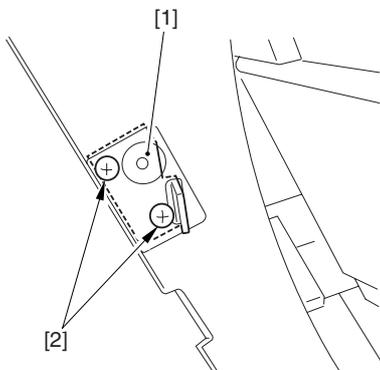

Figure 2-2
- 4) Secure the handle [1] using a stepped screw [2] so that the guide plate [3] shown in Figure 2-2 is inside the handle.